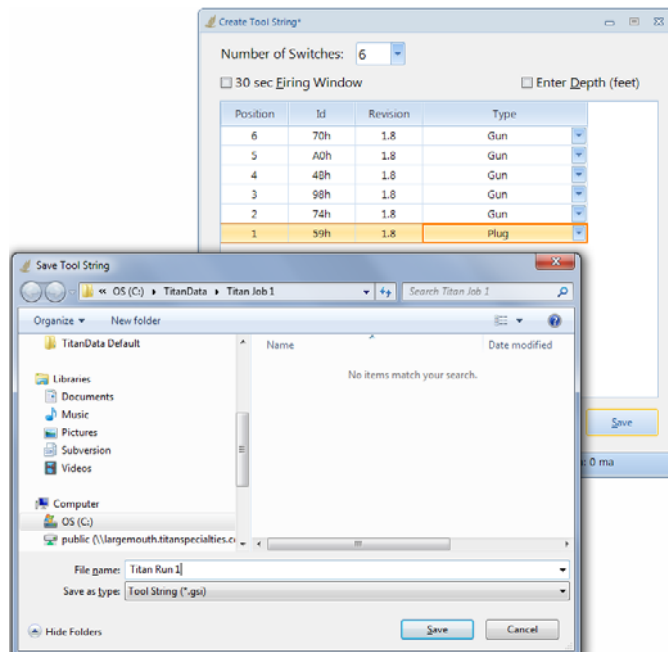

Figure 24
9. Once the user input and the physical tool string match, select the **Save** button and create the new tool string file. As an example, shown in Figure 24, a Titan Run 1.gsi file was created.